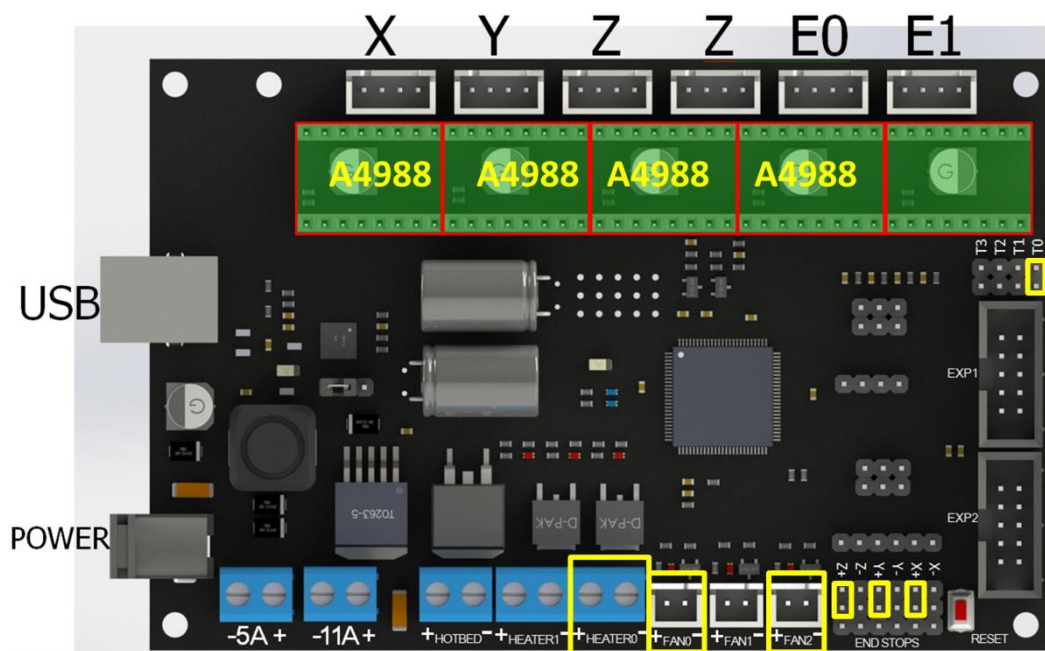

Fig. 30
The wiring of the mainboard is explained as follows (Figure 30). Before wiring on ANYCUBIC mainboard, please make sure the wires on effector passing through the carbon fiber tubes, as shown in Figure 31.
- b. **Limit switches (ENDSTOPS):** please see the bottom right in Fig. 30. 1. X+ wire to X motor limit switch; 2 Y+ wire to Y motor limit switch; 3. Z+ wire to Z motor limit switch.